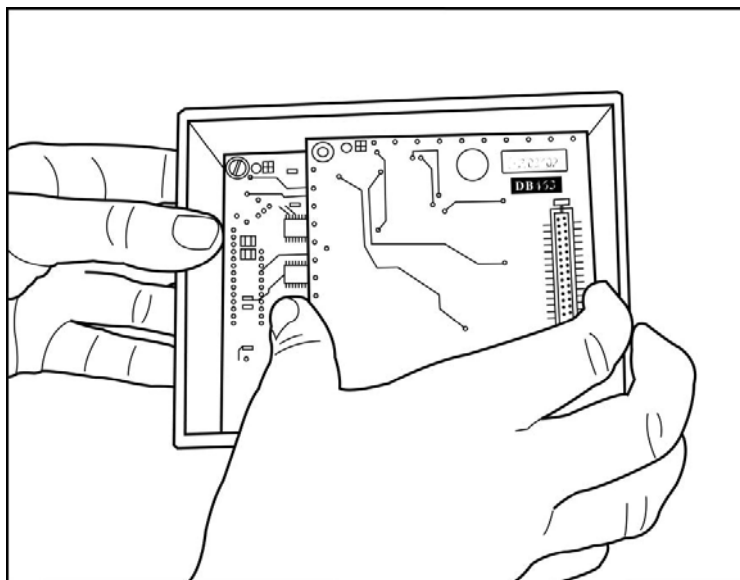

Figure 11: Removing the TEB
- 3 Remove the target emulation board that is currently in the probe by gripping the edge of the board and pulling it straight out (see Figure 11). Store it somewhere safe and static-free for future use.